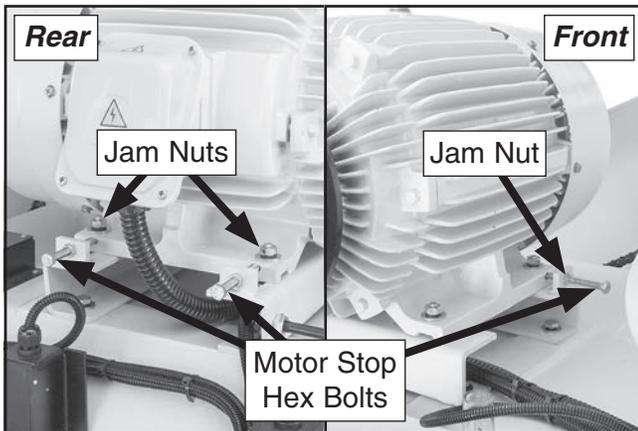

Figure 98. Location of upper cutterhead motor positioning hardware.
- Loosen jam nuts on motor stop hex bolts (see **Figure 98**).